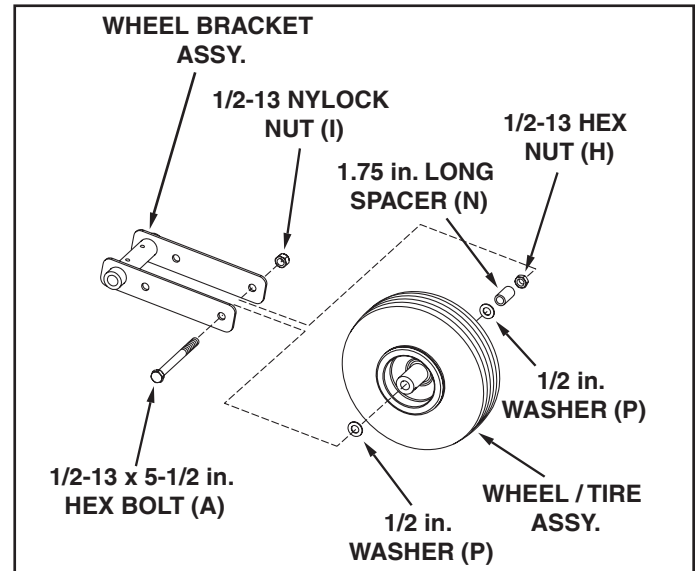

FIGURE 2
2. Assemble each wheel and tire assembly to each wheel bracket using one 1/2-13 x 5-1/2 in. hex bolt, one 1/2-13 hex nut, one 1.75 in. long tube spacer, two 1/2 in. flat washers and one 1/2-13 nylock hex nut. See figure 2.